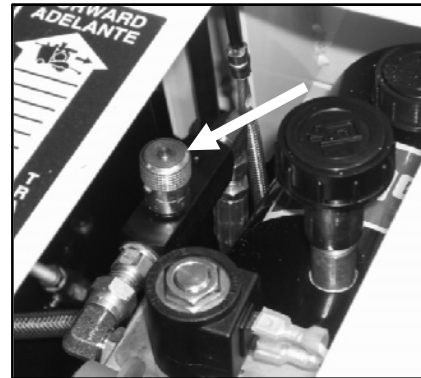

Figure 22: Flow Control Valve
- Option 2: Turn the engine off, remove the hydraulic pump cover plate, and adjust the flow control valve on the hydraulic pump to change the saw's lowering speed. (See Figure 22)